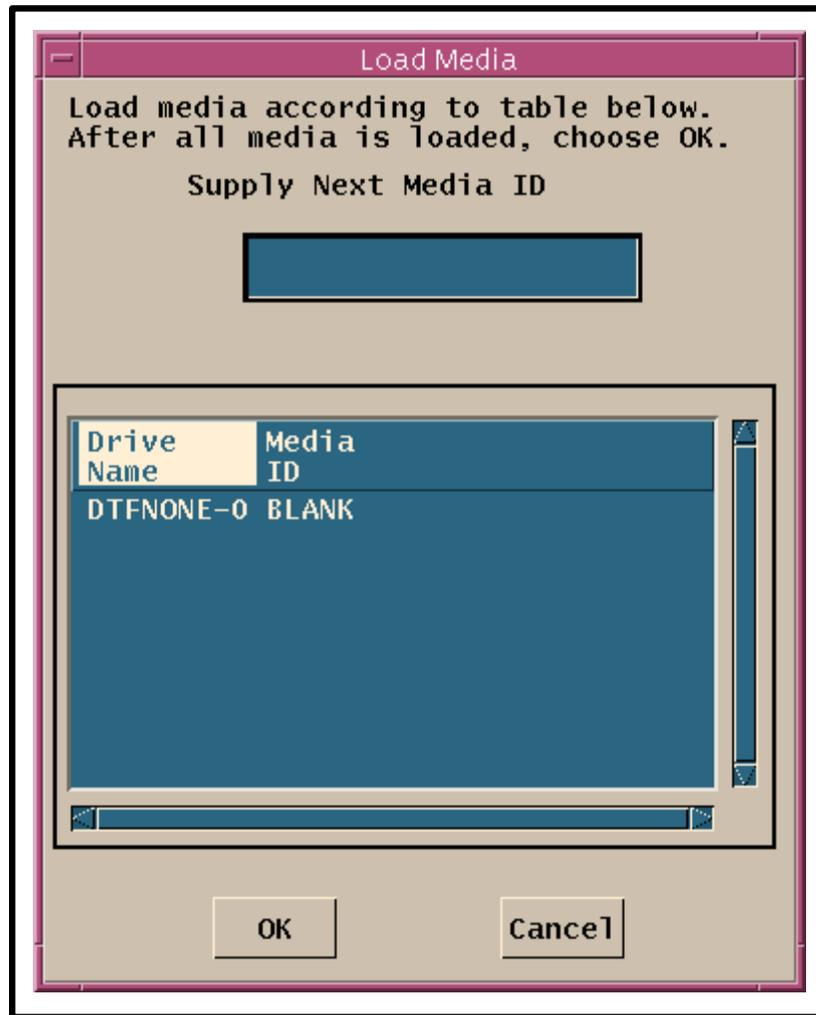

Figure 28. Load Media Window (Drive Management)
- A drive management **Load Media** window (Figure 28) is displayed.